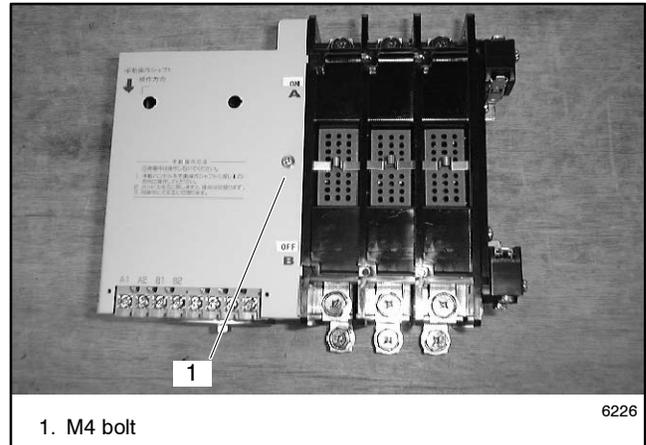

Figure 6-1 Removing Cover
1. Loosen the M4 bolt and remove the cover from the mechanical unit. See Figure 6-1.